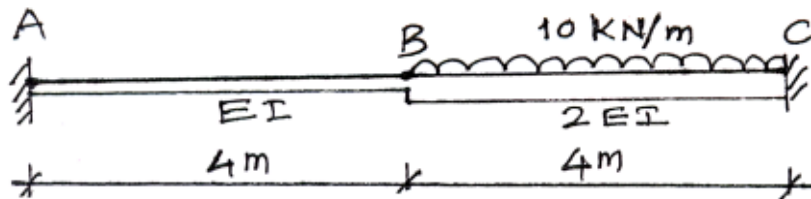

Fig. 1
6. a) Find the force in the member AB, BC and AC for compound fink truss as shown in Fig. 1. Design the member AB using double angle section and member BC with single angle section.
1. Analyse the beam, ABC loaded and supported as shown in fig. 1, using Slope Deflection Method. Draw BMD, SFD and Elastic Curve. 18